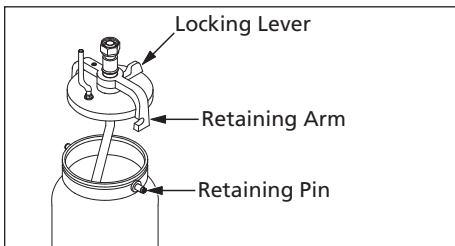

Figure 7 - Locking the cup
- Move locking lever clockwise to locked position. (See Figure 7).